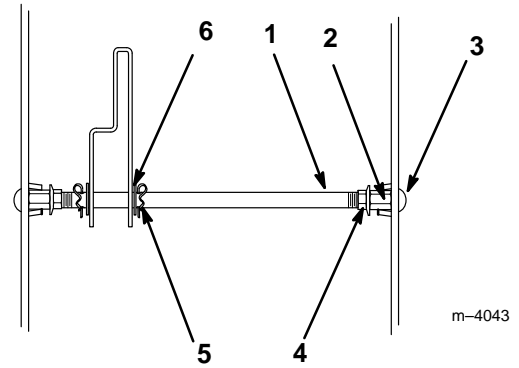

Figure 4
7. Install the flange nuts, previously removed (Fig. 4), with the flange toward the outside.
8. Thread a hex spacer nut onto each end of the pivot rod. Equally adjust each spacer so that the assembly just fits inside the tower (Fig. 4).